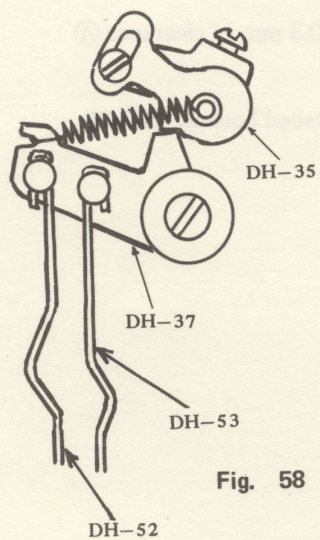

Fig. 58
- (6) Adjust with DH-52 (Return & Tab Connecting Wire) so that Tab Mechanism will positively override Carriage Mechanism when DB-47 (Tab Key) is depressed during Carriage Return operation. Make sure that DH-52 is not too short to eliminate malfunction of Carriage Mechanism. (Fig. 58)
- (7) Adjust the clearance ㉘ between the stopper portion of DM-12 and DM-27 (Guide Plate for DM-17) to 1.4 mm for Pica type and to 1.2 mm for Elite type by changing position of DM-14 (Stud Collar for DM-12).